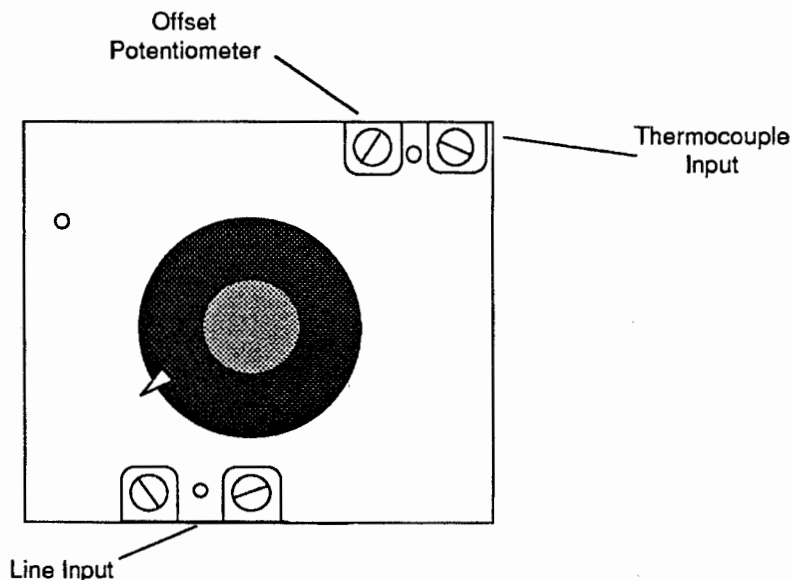

Figure 9 - Relay Master Potentiometer Location
1. Set the offset potentiometer fully clockwise. This calibration pot is located on the top of the Relay Master. See Figure 9.